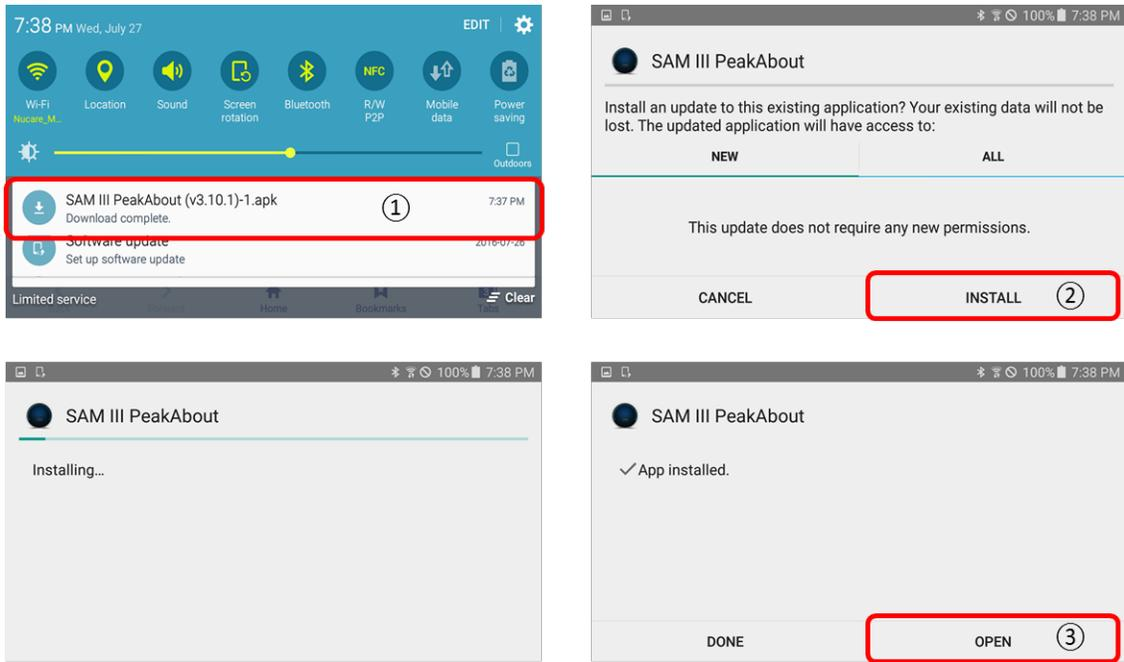

Figure 4.3. SAM III SW upgrade procedure
5. Installation screen is opened as shown in figure 4.3. Follow 4 steps below.